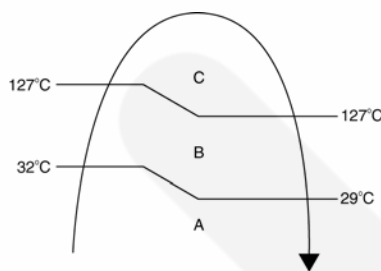

Figure 1
1. Automatic vertical airflow direction can be set using remote control; the vane swings up and down within the angles as stated above. For heating mode operation, the angle of the vane depends on the indoor heat exchanger temperature as Figure 1 below. When the air conditioner is stopped using remote control, the vane will shift to close position.